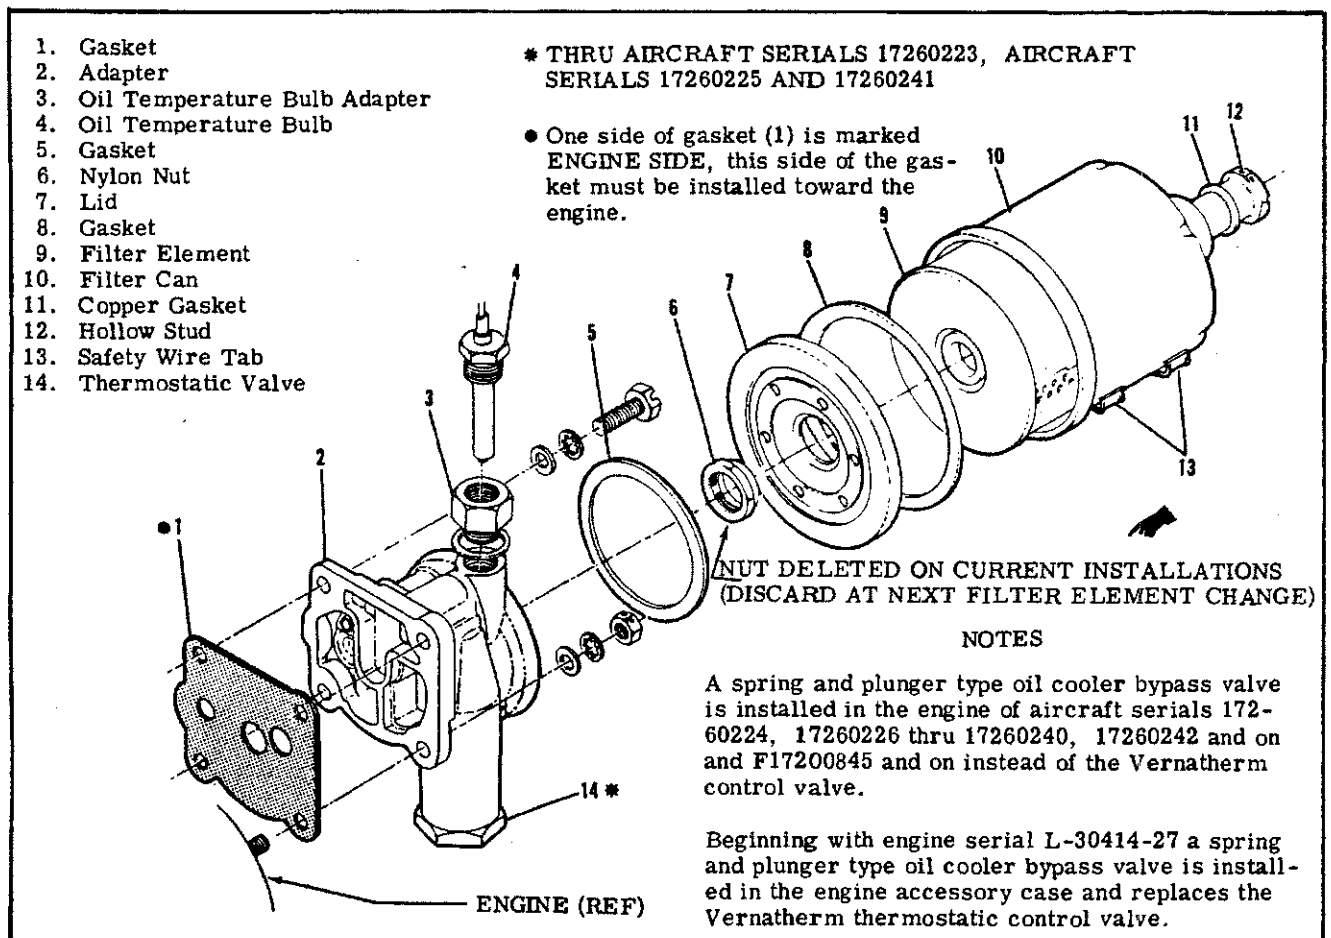

Figure 11-3. Full-Flow Oil Filter
11-30. **DESCRIPTION.** The lubricating system is of the full pressure, wet sump type. The main bearings, connecting rod bearing, camshaft bearings, valve tappets and push rods, are lubricated by positive pressure. The pistons, piston pins, cams, cylinder walls, valve rockers, valve stems and other internal moving parts are lubricated by oil collectors and oil spray. The pump, which is located in the accessory housing, draws oil through a drilled passage leading from the suction screen located in the sump, a manner as to form an inertia type filter, thus ensuring that only the cleanest oil will reach the bearings. Drilled passages from the rear main bearing supply pressure oil to the crankshaft idler gears. Angular holes are drilled through the main bearings to the rod journals where sludge removal tubes are located. Oil from the main gallery also flows to the cam and valve gear passages and then is conducted through branch passages to the hydraulic tappets and cam shaft bearings. Oil travels out through the hollow push rods to the valve rocker bearings and valve stems. Residual oil from the bearings, accessory drives and rocker boxes flows by gravity to the sump where it passes through the suction screen and is recirculated through the engine. The oil cooler may be controlled by a thermostatically controlled valve or a pressure-operated bypass valve (refer to figure 11-3 for applicable aircraft and engine serial numbers). An external, replaceable element full-flow oil filter is available as optional equipment. This external filter replaces the pressure oil screen when installed.
11-32. FULL-FLOW OIL FILTER. (Refer to figure 11-3.)
11-34. REMOVAL AND INSTALLATION. (Refer to figure 11-3.)
#### 11-36. REMOVAL. (Refer to figure 11-3.)
e. Remove gasket (1) from adapter mounting pad and discard.
**11-37. DISASSEMBLY, INSPECTION AND RE-ASSEMBLY.** After removal of the adapter (2), remove thermostatic bypass valve (14) for cleaning. Do not disassemble the valve. Clean adapter and thermostatic valve in solvent and dry with compressed air. Ascertain that all passages in adapter are open. Remove any gasket material that may have adhered to the adapter. Inspect adapter for cracks, damaged threads, scratches or gouges to gasket seats. If any of these are found, install a new adapter. Using a new gasket install thermostatic bypass valve in adapter.
**11-40. DESCRIPTION.** The external oil cooler is mounted on the firewall. Flexible hoses carry the oil to and from the cooler. Cooling air for the cooler is ducted from the upper right engine baffle to the shroud covered oil cooler. Exhaust air from the cooler is discharged into the engine compartment. A thermostatically operated cooler bypass valve may be installed in the oil pressure screen mounting pad or a spring-loaded, pressure-operated bypass valve may be installed in the accessory housing (refer to figure 11-3 for applicable aircraft and engine serial numbers). This valve causes oil to bypass the cooler in the event of congealed oil or an obstruction in the cooler. The bypass valve passes the oil directly to the pressure screen until a predetermined oil temperature or pressure is reached, then oil is routed through the cooler. At each engine oil change, drain the oil cooler.